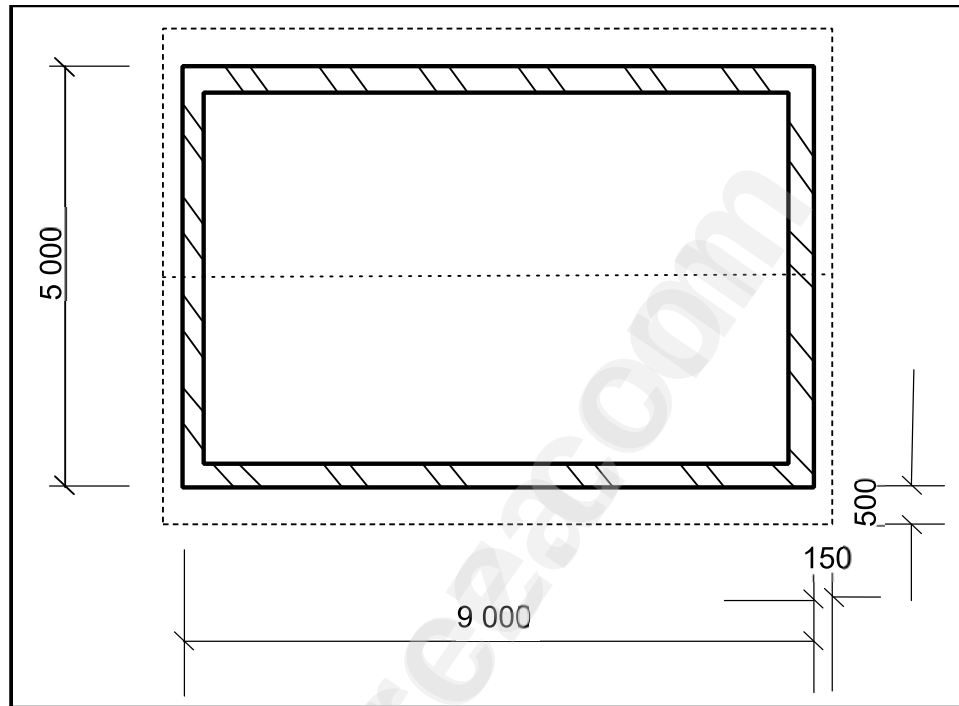

FIGURE 3.5
- 3.5 FIGURE 3.5 shows the floor plan of a building with a gable roof. The external measurements are 9 000 mm x 5 000 mm.